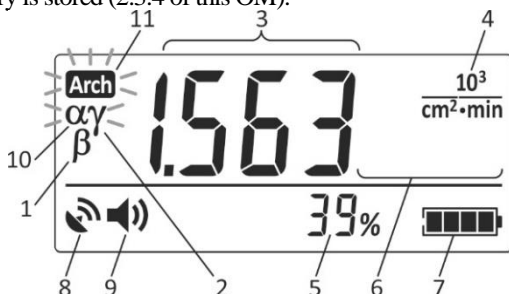

Figure 2.18 – LCD of the dosimeter
2.3.6.6.1.2 When beta radiation characteristics are measured using the ABG probe, alpha radiation presence is also monitored. When alpha radiation is recorded (when the pulse count rate from alpha radiation detector exceeds the value of 1 cps), the LCD of the dosimeter begins displaying a blinking “α” symbol ((10) Figure 2.18) and generating typical sound and light alarms.
2.3.6.6.2.3 In this mode the following is displayed on the dosimeter’s LCD (Figure 2.18):
- “ β ” symbol (1) – radiation type being measured;
- blinking “ γ ” symbol (2) – indication that when beta radiation characteristics are measured gamma-component of radiation is taken into account;
- measurement result (3);
- dimension of measurement result (4);
- estimated limits of expected relative statistical deviations (5) of the measurement result (3) given 0.95 confidence probability, hereinafter referred to as estimated limits of statistical deviations;
- instantaneous value indicator (6);
- battery status symbol (7);
- navigation receiver status symbol (8);
- symbol of sounding status of the registered gamma quanta, alpha or beta particles (9);
- symbol (10) of alpha radiation presence (when beta radiation characteristics are measured using ABG probe);
- press MODE and hold it down until a blinking “ γ ” symbol appears ((2) Figure 2.18) to save the result of gamma-component measurement.
2.3.6.6.5.1 It is only possible to save the measurement result if gamma radiation component is considered during measurement of beta radiation characteristics. The LCD of the dosimeter displays a blinking “ γ ” symbol (2) (Figure 2.18).